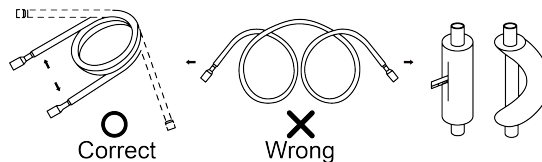

Fig.4.4.2
- (1) Reshape the pipe by hand. Be careful not to damage the pipe.
- (2) Do not bend the pipe over 90°.
- (3) If pipe is repeatedly bent or stretched, it will get hard and difficult to bend and stretch again. Therefore, do not bend or stretch the bend for over 3 times.
- (4) In case that direct bending will open cracks to the pipe, first use sharp cutter to cut the insulating layer, as shown in Fig.4.4.2. Do not bend the pipe until it is exposed. When bending is done, wrap the pipe with insulating layer and then secure it with adhesive tape.